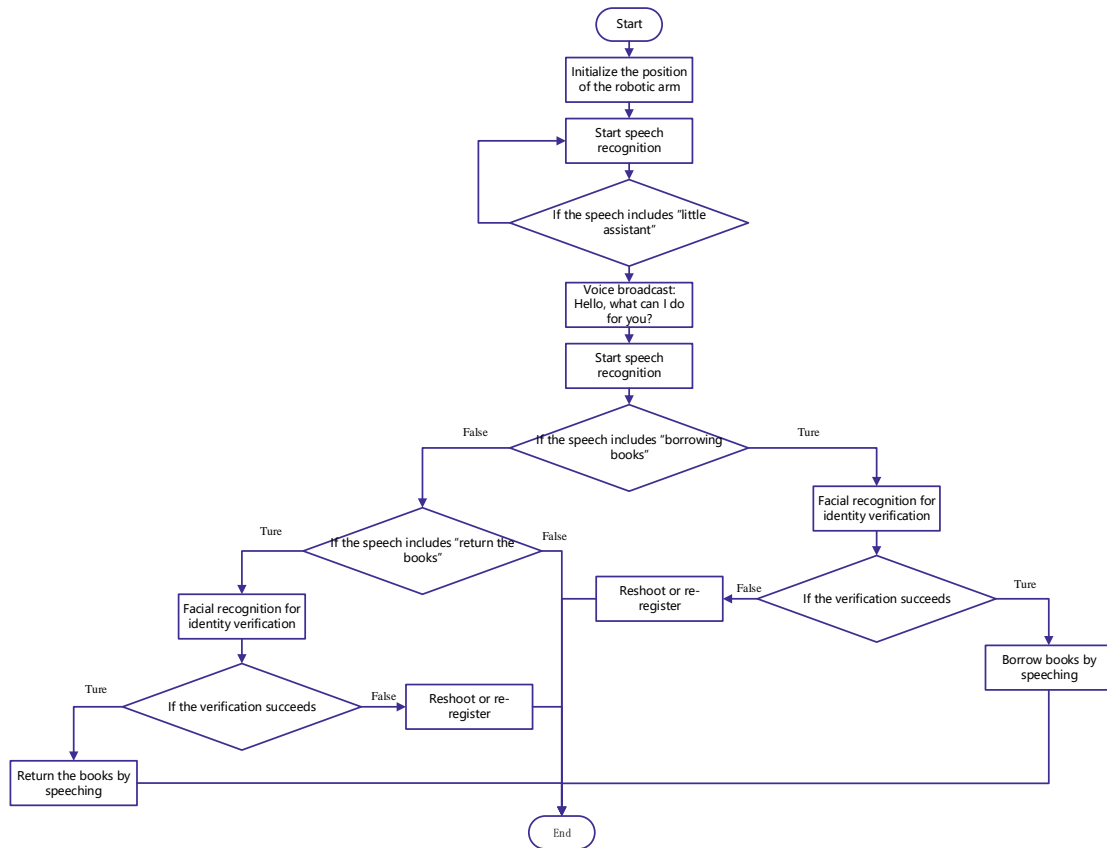

Figure 5.26 Flowchart of the smart library program
(2) Design Program
Step 1: Design the program flowchart, as shown in Figure 5.26.